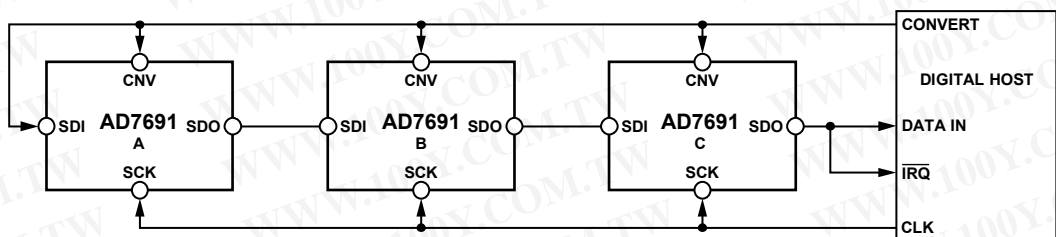
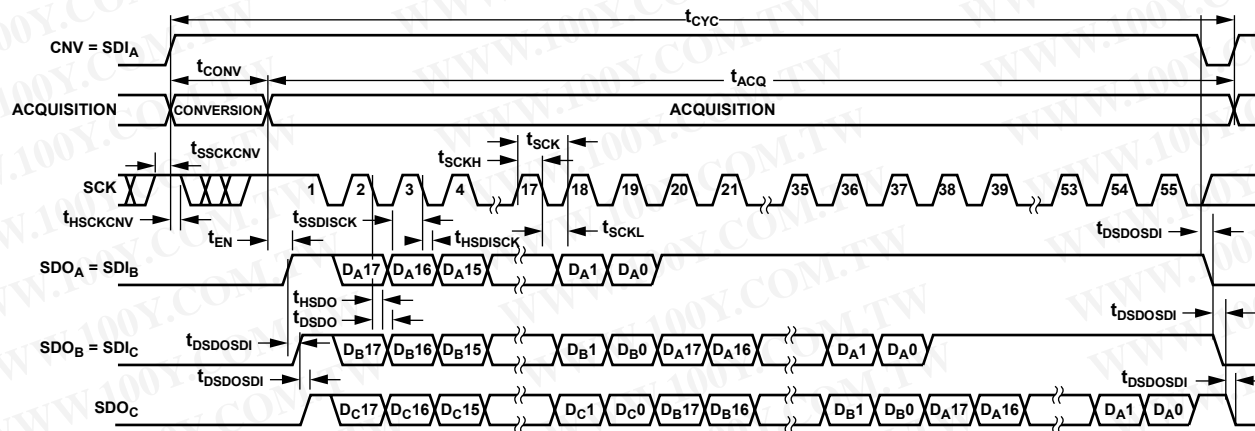

Figure 45. Chain Mode with Busy Indicator Connection Diagram
Figure 46. Chain Mode with Busy Indicator Serial Interface Timing
- In the chain mode if SCK is high during the CNV rising edge (see Figure 46).
A connection diagram example using three AD7691s is shown in Figure 45, and the corresponding timing is given in Figure 46.
completed their conversions, the SDO pin of the ADC closest to the digital host (see the AD7691 ADC labeled C in Figure 45) is driven high. This transition on SDO can be used as a busy indicator to trigger the data readback controlled by the digital host. The AD7691 then enters the acquisition phase and powers down. The data bits stored in the internal shift register are clocked out, MSB first, by subsequent SCK falling edges. For each ADC, SDI feeds the input of the internal shift register and is clocked by the SCK falling edge. Each ADC in the chain outputs its data MSB first, and  $18 \times N + 1$  clocks are required to readback the N ADCs. Although the rising edge can be used to capture the data, a digital host using the SCK falling edge allows a faster reading rate and, consequently, more AD7691s in the chain, provided the digital host has an acceptable hold time.